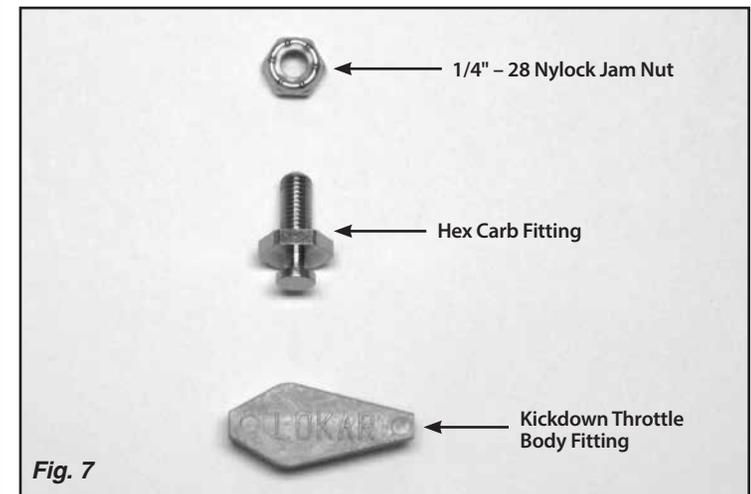
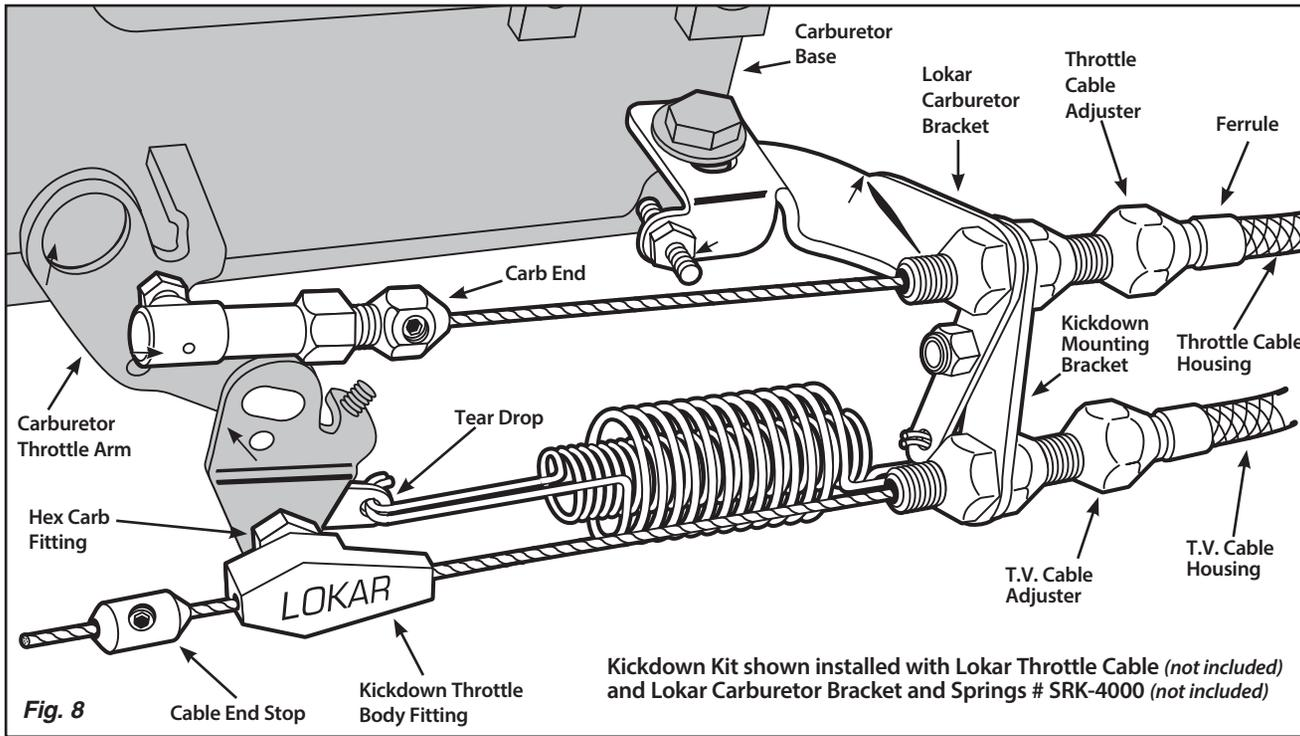

Fig. 7
Fig. 8
Step 9: The tear drop will be attached to the carburetor throttle arm by the hex carb fitting. Separate the hex carb fitting from the kickdown throttle body fitting as shown in **Fig. 7**. Install the tear drop with the hex carb fitting and the 1/4"-28 nylock jam nut onto the carburetor throttle arm. Hook the springs to the tear drop and tighten the nylock jam nut. **Fig. 8** Then, back the nut off just enough so that the tear drop can rotate freely.